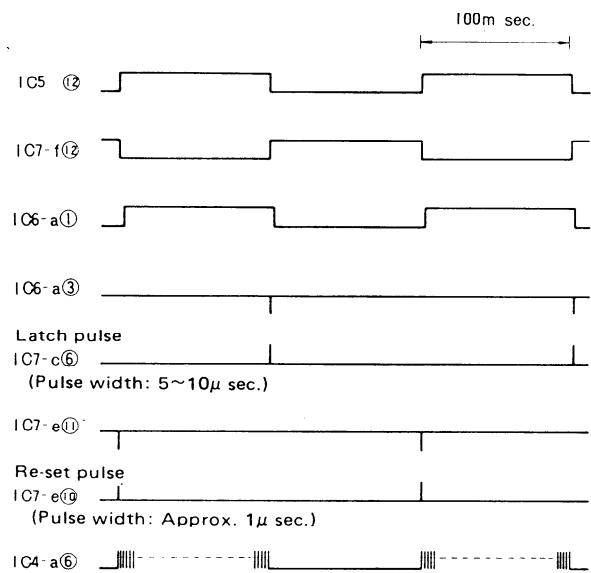

Fig. 4 Timing chart (A), Generation of Latch pulse and Re-set pulse
These IC's are reset at "H" and the output of BCD becomes "L" "L" "L" "L" regardless of presence or absence of CLOCK input. When the reset input terminal is "L", the count is started. The condition of generation of the latch pulse and reset pulse is shown in the time chart (A) of **Fig. 4**.